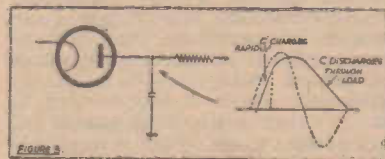

Fig. 3.—The waveform obtainable from the first filter condenser in the power supply.
It can be shown mathematically that ordinary noise is composed of sine wave components, all of the same amplitude, and having frequencies that extend continuously throughout the useful spectrum. Consider one of these components, somewhat higher in frequency than that of the carrier, and of relatively small amplitude. In Fig. 3, AB is such a noise component
rotating counterclockwise, and OA is the carrier. It will be recognised as being similar to the upper side band shown in Fig. 3 (A) or (B), but now it cannot be paired with a corresponding lower side band, because the noise components are entirely random in phase. Hence its resultant with OA must be studied separately from the resultants of other noise components with OA.
This ripple, which is really the AC component of the voltage upon the condenser is shown in Figure 3, and has a waveform of the desired shape. This is due to the fact that, while the rectifier is charging, the condenser is charging through a relatively low impedance, whereas during the non-conduction period of the rectifier the condenser is discharging at what is really an exponential rate, but, owing to the brief space of time involved, is for our purposes, sufficiently linear.